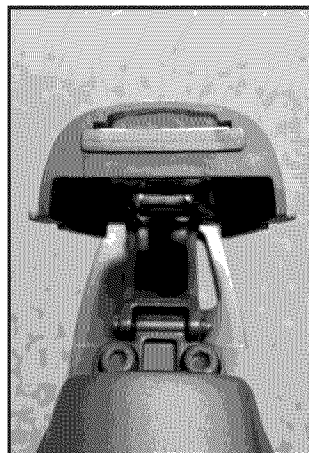

Figure 1
## CHANGING THE BATTERY (See Figure 1 & 2)
- Remove the soft protection pad by pulling up on one of the side tabs. (See Figure 1).